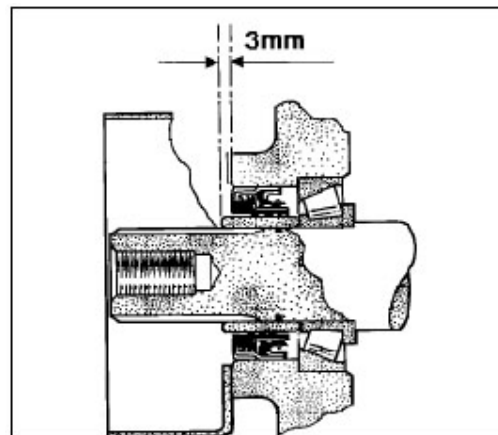

Fig 24
18. The correct position of the seal is 0.118 inch (3 mm) behind the front face of the sleeve (See illustration in Fig 24).